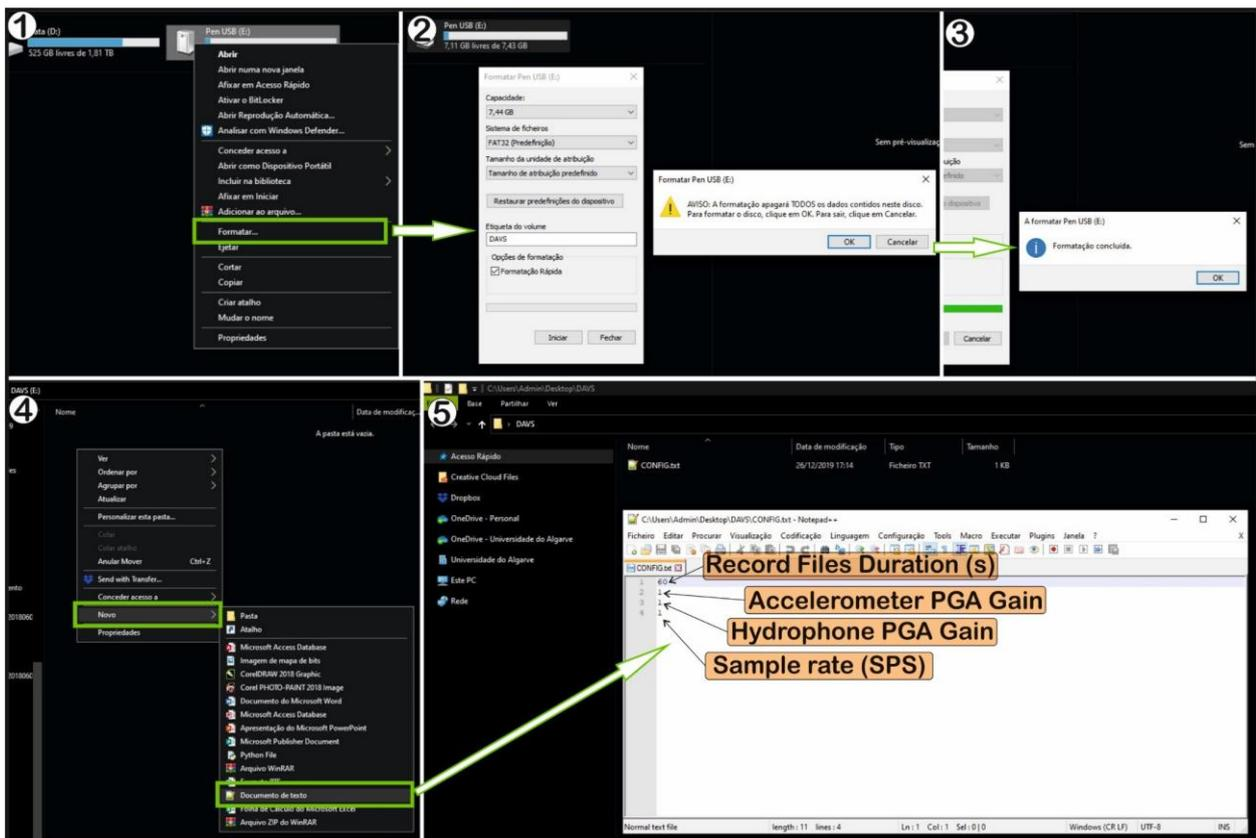

Figure 5 - Example of DAVS configuration file in Windows and Notepad++
In Windows environment, insert the SD card into computer using any micro SD adapter. By selecting the card in windows explorer, right click it and choose format as in (1) of Figure 5. Then select FAT32 file system, write a name and click 'begin' to start and 'OK' to confirm (2). After formatting card finished (3), open it and create a text file (extension ".txt") with notepad or similar (4). Write the desired settings in each line, saving the file as "CONFIG.TXT" into SD card root folder (5). In the example above, a configuration file was created with files of 60 recording seconds, with PGA gains of 1 for hydrophone and accelerometers and an ADC sample rate of 52734 Hz.